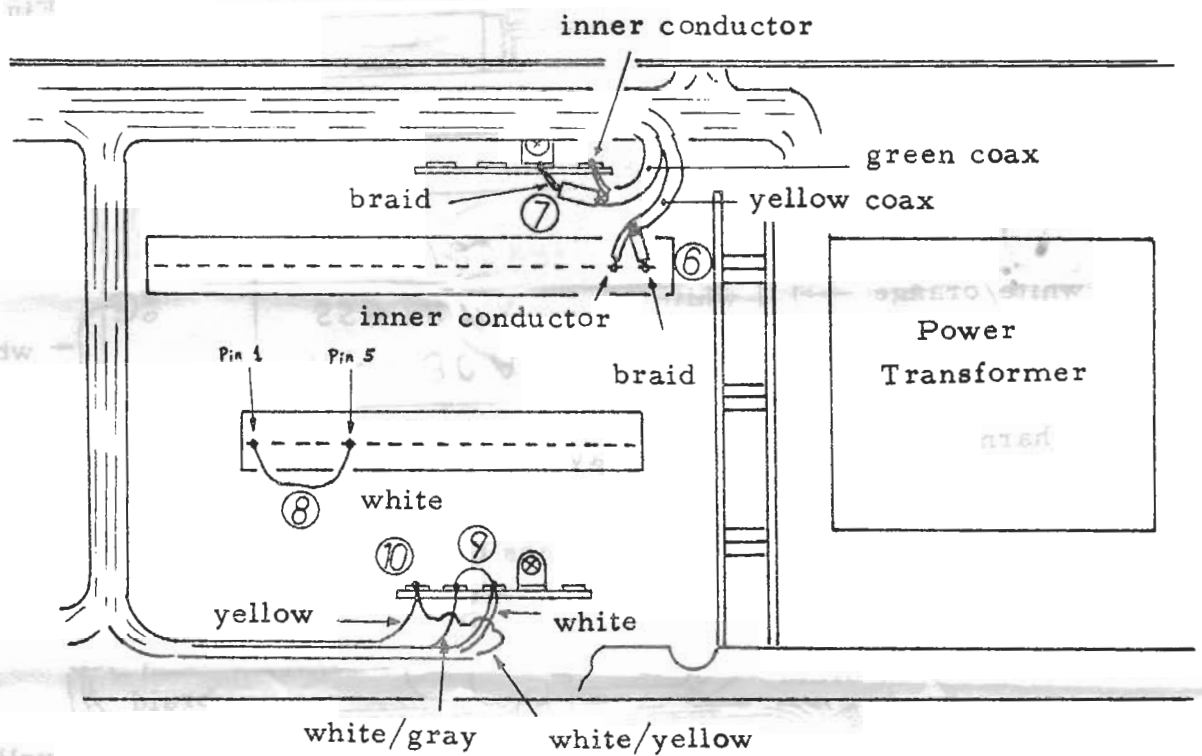

Fig. 3
- (c) Solder the yellow coax cable (6) prepared in Step (b) to MJ-1, inner conductor to pin 2 and outer braid to pin 1. Solder the green coax cable (7) to the soldering post and outer braid to ground as illustrated in Fig. 3.
- (d) Solder the white wire disconnected from the soldering post in Step (b) to pin 1 (8) of MJ-2. Connect the white/grey and two white wires (9) together using a yellow wire (4) removed in Step (b) and solder them.